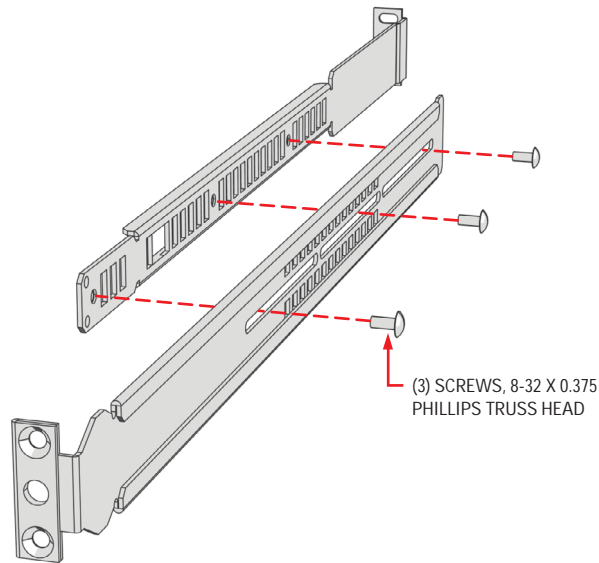

Figure 9. Assembling a Support Rail
2. Mount one front-mount support rail with one rear-mount support rail back-to-back, and attach the rails using three 8-32 x 0.375-inch Phillips truss head screws (refer to Figure 9). Leave the screws loose until the support rails are attached to the rack in step 7.